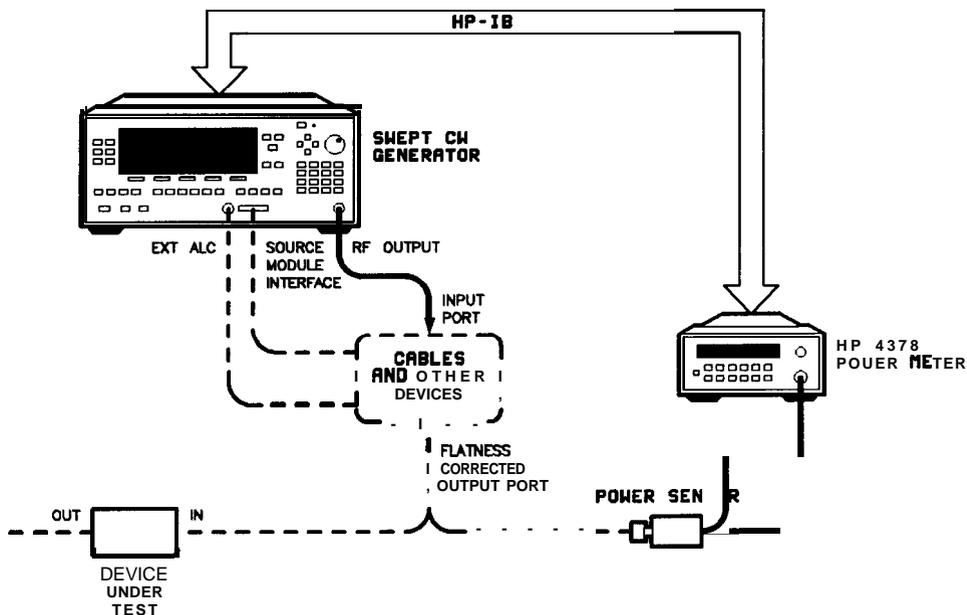
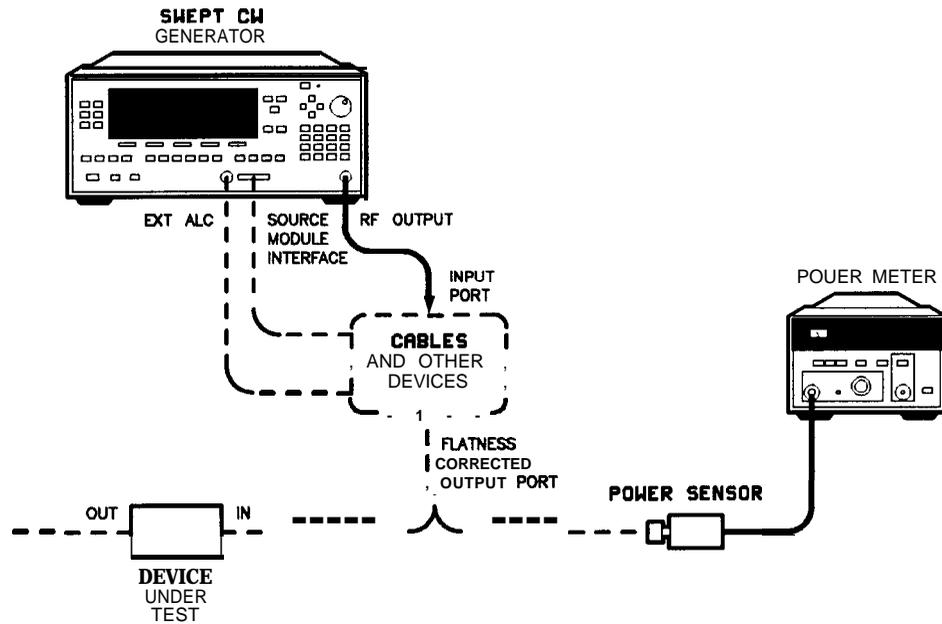

Figure 1-18. Creating a User Flatness Array Automatically
Figure 1-19. Creating a User Flatness Array
There are two basic front-panel methods of creating a flatness correction array. The first and quickest method is to use an HP 437B power meter. Refer to Figure 1-18 for the setup. The second method is just as accurate, but requires a little more interaction between the operator and the instruments. Figure 1-19 shows the setup for the second method.
1. The equipment setup shown in Figure 1-18 assumes that if the setup has an external leveling configuration, the steps necessary to correctly level have been followed. If you have questions about external leveling, refer to “Externally Leveling the Swept CW Generator”.
1. The equipment setup shown in Figure 1-19 assumes that if your setup has an external leveling configuration, the steps necessary to correctly level have been followed. If you have questions about external leveling, refer to “Externally Leveling the Swept CW Generator”.